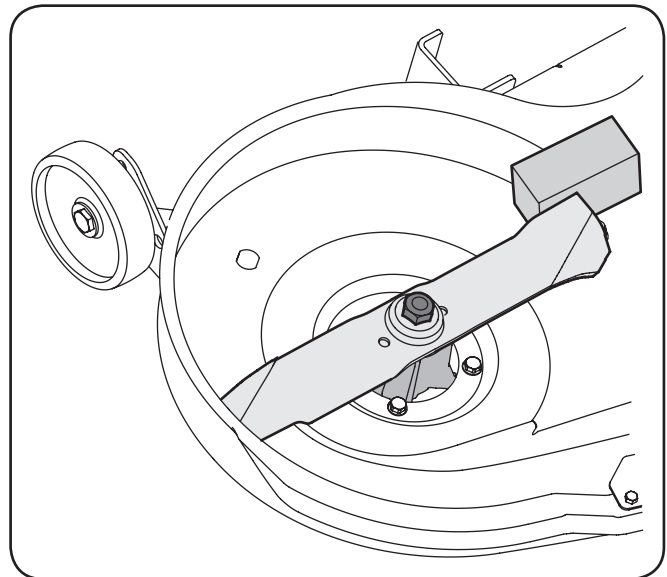

Figure 7-6
2. Place a block of wood between the center deck housing baffle and the cutting blade to act as a stabilizer. See Fig. 7-6.
3. Remove the hex flange nut that secures the blade to the spindle assembly. See Fig. 7-6.